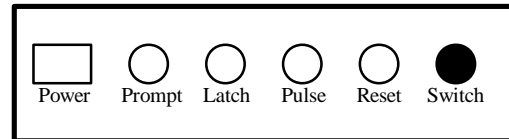

Figure 1
1. If a switch is used, attach the switch plug to the **SWITCH** jack on the back of the Counter/Controller (Figure 1).